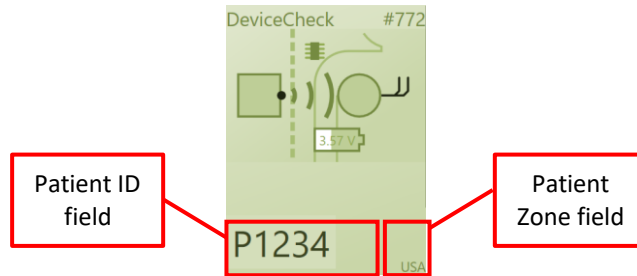

Figure 6.5: CLS Icon with Patient ID and Zone underneath.
1. On connection to the stimulator the Patient ID and Patient Zone are retrieved and displayed under the CLS icon (see Figure 6.5).
1. For a new patient, touch the *Patient ID* box under the CLS icon (see Figure 6.5).